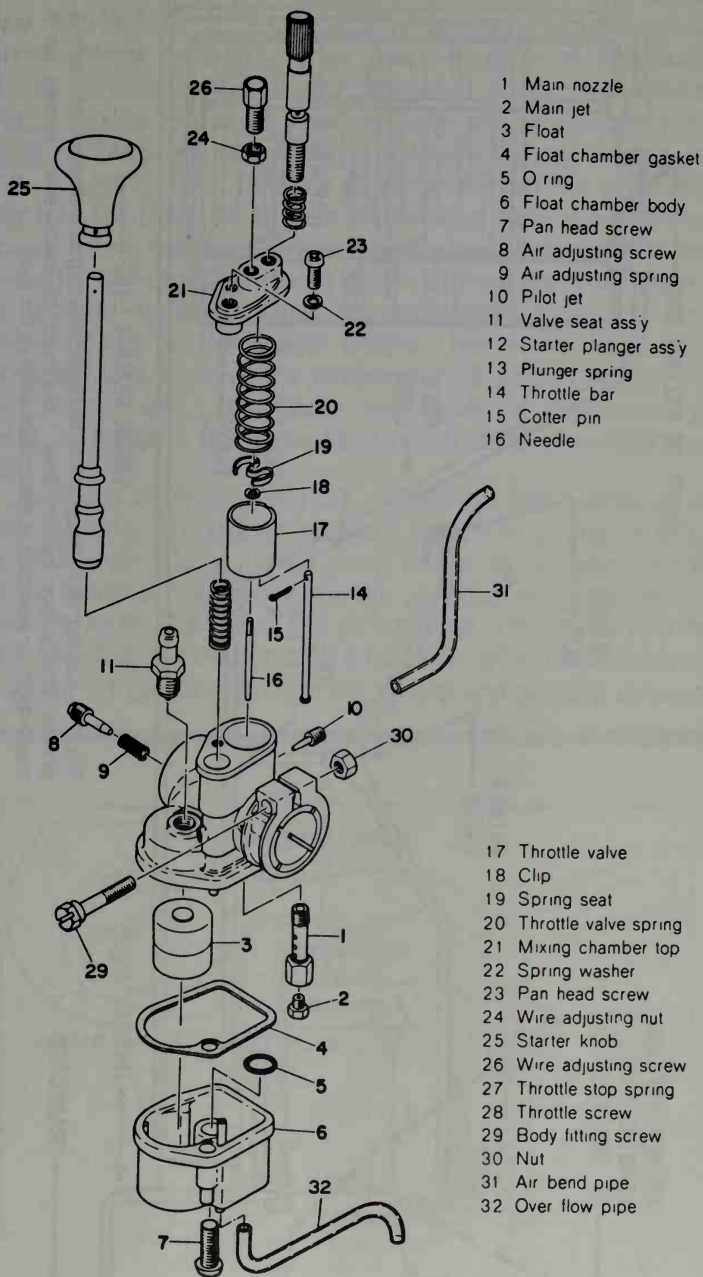
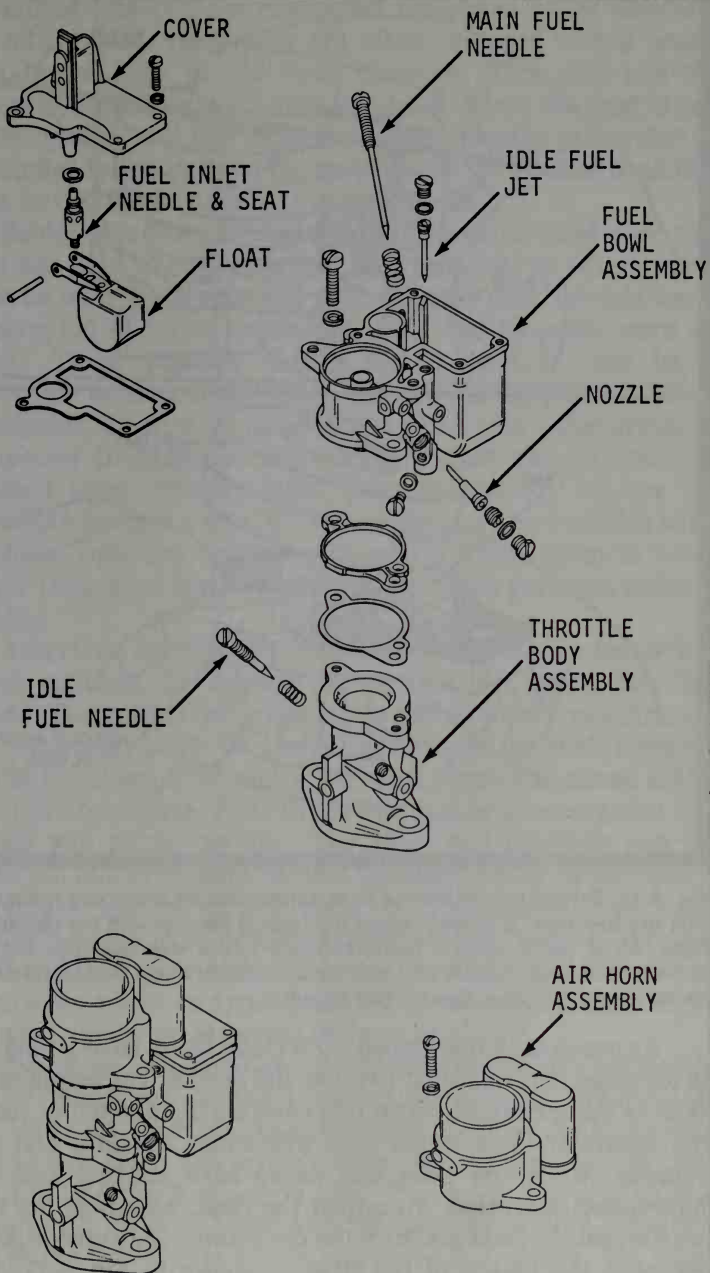

Fig. 4-8. A 16 mm Mikuni used on Yamaha motorbikes.
Fig. 4-12. This downdraft carburetor is used on Kohler twins.
Starting Aids. Some provision must be made for cold starting. Mikuni carburetors are fitted with a starting control that uncovers a large-bore starting jet. The maker claims that this system (also used by Weber in their automotive designs) helps to prevent flooding since the air supply is not affected by the starting jet. Figure 4-8 shows a Mikuni in exploded view. An incidental feature of this carburetor is the overflow pipe (No. 32) that diverts fuel spillage out of the float chamber and away from the machine.
These types are more sophisticated than the suction-lift types. Figures 4-8, 4-11, and 4-12, show three styles. The updraft design is the oldest and has the advantage that it does not increase the height of the engine. On the other hand, starting may be difficult, since the air/fuel mixture has some considerable distance to travel before it enters the chamber. Another disadvantage is that the mixture must make a 90
Down-draft carburetors, such as the one pictured in Fig. 4-12, are quite efficient but increase the height of the package. Motorcycles and outboards are almost always equipped with side-draft carburetors such as the mikuni type shown in Fig. 4-8. A small disadvantage of both the side- and down-draft types is that when they're flooded, fuel dribbles into the engine, making starting difficult and increasing the fire hazard.
European and Japanese carburetors are usually built with a slide (sometimes called a piston slide) throttle. Figures 4-8, 4-14, and 4-15 illustrate three varieties. Look at the Kawasaki type in Fig. 4-14: The throttle slide (16) carries a needle (38) that fits into the fuel nozzle (39). The needle retracts as the slide moves up in its bore. As it retracts, its tapered edges fill less of the fuel-nozzle orifice and more fuel passes. The total amount of fuel is limited by the size of the main jet (26). (Other carburetors may locate the main jet at the top of the nozzle.) The pilot screw (19) controls the amount of air going to the low speed circuit.